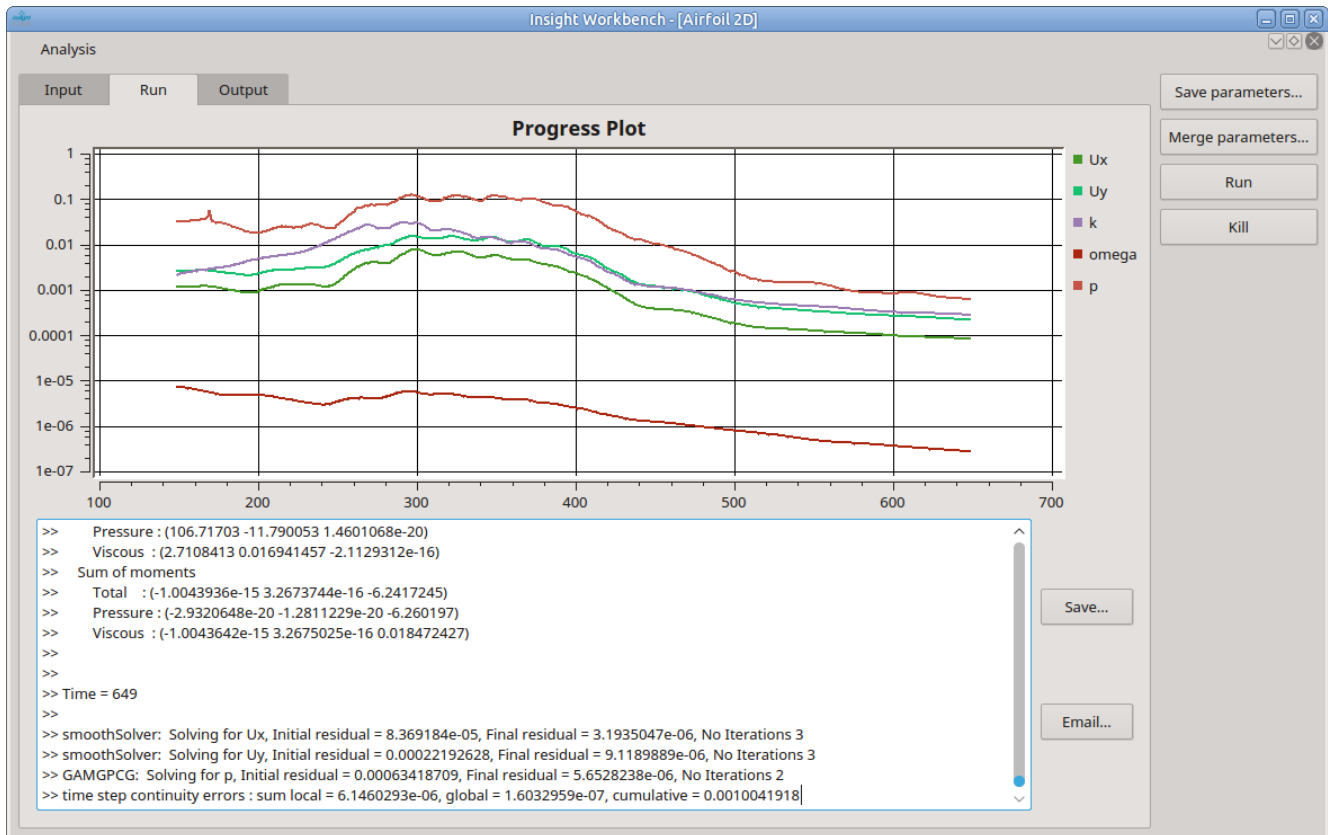

Figure 8: Solution progress tab of the workbench
**Running the Analysis** With a properly edited parameter set, the analysis run can be started. This is achieved by clicking on the button "Run" on the right side or by selecting   in the menu. This analysis form switches automatically to the "Run" tab (see figure 8). In the lower half, the log message are displayed. Sometimes, errors in an external program occur and are not correctly reported. It is therefore a good practice to watch the log messages for errors or warnings.